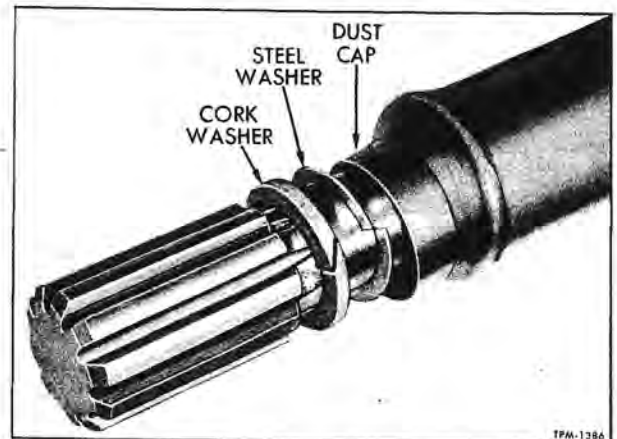

Figure 6—Propeller Shaft with Slip Joint Removed
On SDH and TDH models, flange yoke at slip joint end is bolted to transmission mainshaft companion flange. On SDM and TDM models, slip yoke is connected directly to a fixed yoke which is splined to transmission mainshaft and secured by a nut. Shaft is splined to slip yoke. A steel dust cap which screws onto slip yoke (fig. 6) prevents entry of dust. Flange yoke at fixed joint end is bolted to companion flange at differential.
3. Install dust cap, steel washer, and cork washer on fixed joint end of shaft (fig. 6).